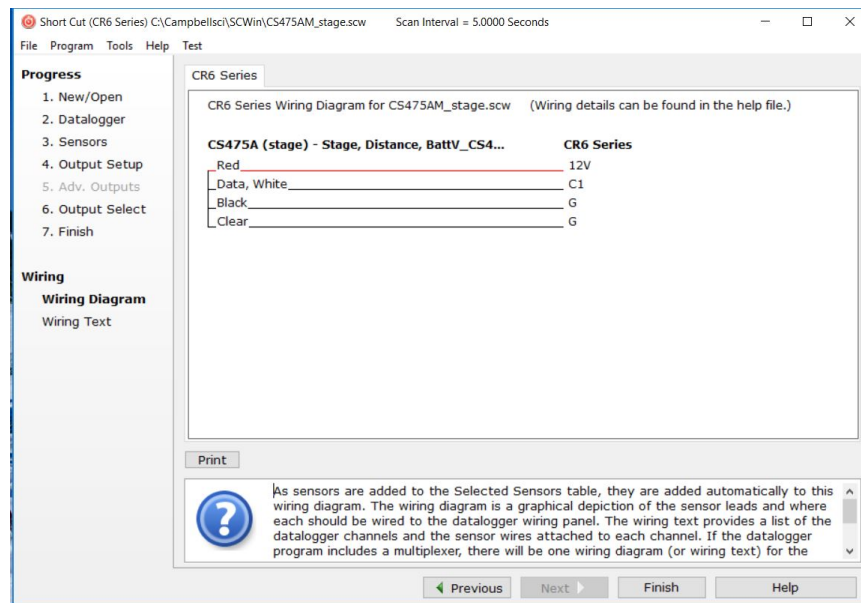

FIGURE 4-5. Short Cut, Wiring Diagram
5. After selecting the sensor, click **Wiring Diagram** to see how the sensor is to be wired to the data logger (FIGURE 4-5 (p. 5)). The wiring diagram can be printed now or after more sensors are added.